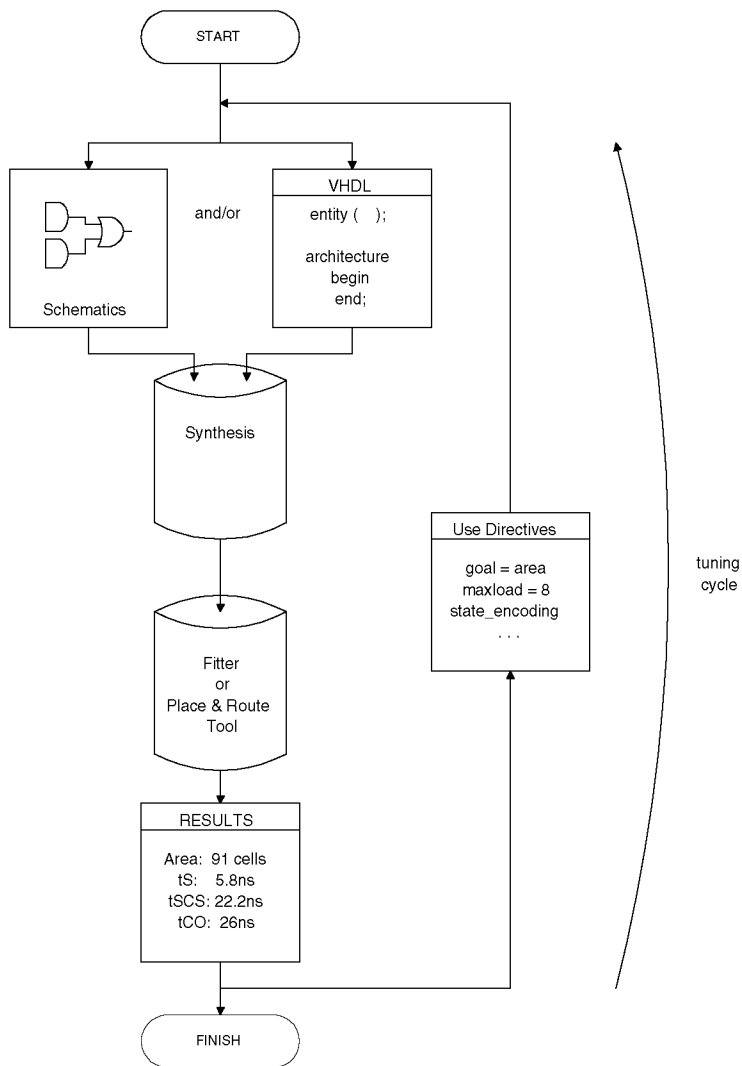

Figure 9-1 Tuning
Until the user becomes familiar with the effects of using the different directives, Cypress does not recommend applying any of them in the first iteration of a design. After synthesis and fitting—or place and route, in the case of an FPGA design—the design may fit in the desired device and meet timing goals. In this case, the design is complete—no directives are necessary. If, however, after the initial iteration of synthesis and fitting, the design does not fit or meet timing goals, the design may need tuning. *Tuning*, illustrated in Figure 9-1, is the process of (1) identifying and applying an appropriate directive that may help to reduce resource utilization or realize timing targets, (2) resynthesizing and fitting the design, and (3) verifying that the design meets area and speed goals. In some cases, this tuning process may have to be repeated in order to compare multiple implementations of the design.